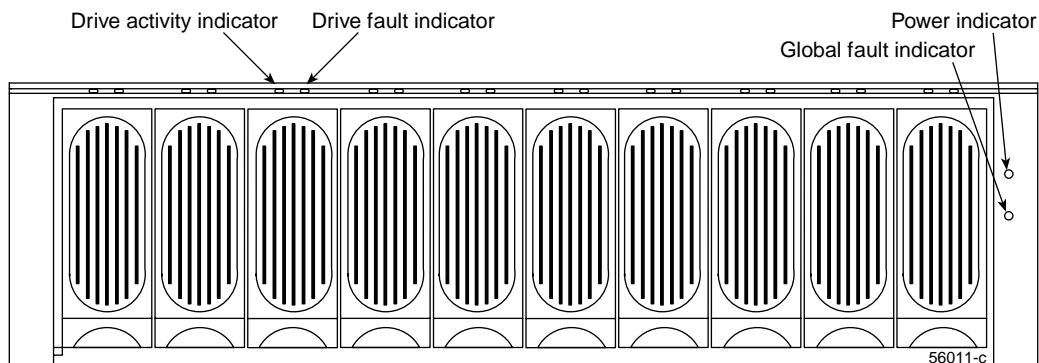
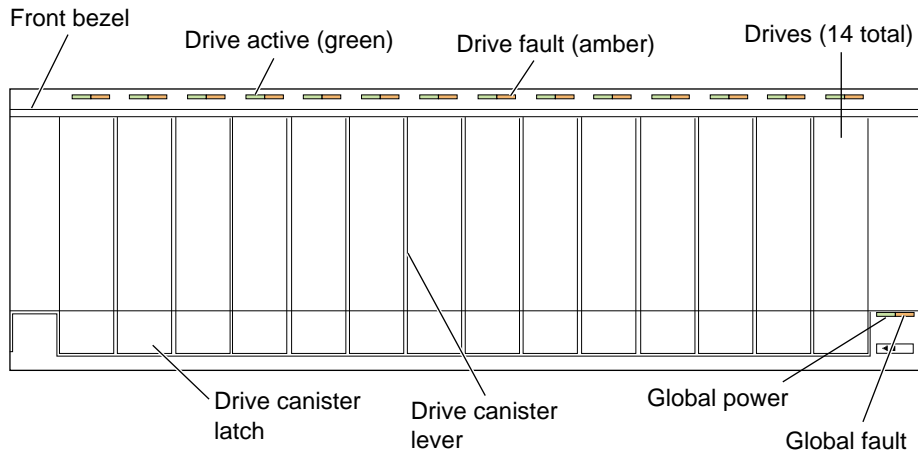
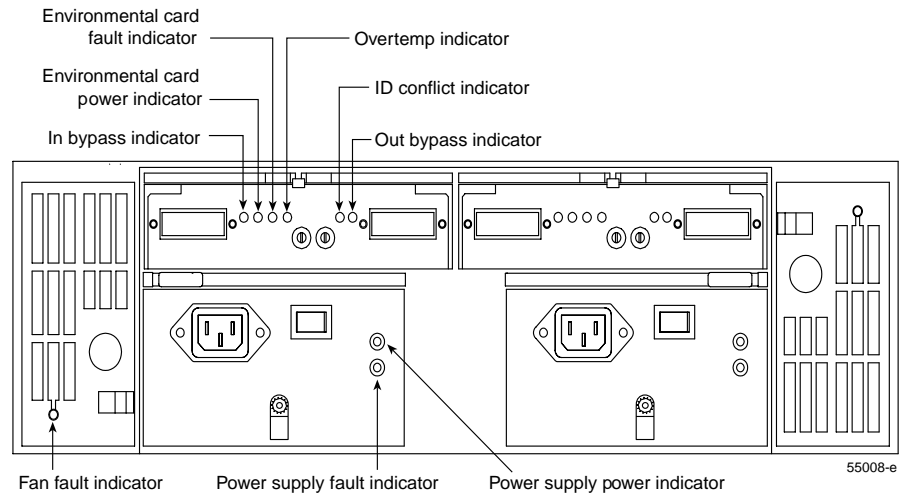

Figure 6-2 Front Indicator Lights on the 10-Drive Enclosure
Figure 6-3 Front Indicator Lights on the 14-Drive Enclosure
Figure 6-4 Rear Indicator Lights on the 10-Drive Enclosure
come on. See Figure 6-4 and Figure 6-5 for the locations of the overtemp indicators on the 10- and 14-drive enclosures.
3. Make sure that all the drive enclosure fault indicators are off (see Figure 6-2 and Figure 6-3).
Important: Except as described in the notes following Figure 6-2 and Figure 6-4, an amber light indicates a drive enclosure component failure. If you see an amber indicator, run the storage management software (TPSSM) to diagnose and repair the problem.
Figure 6-2 shows the front indicators for the 10-drive enclosure.
Figure 6-3 shows the front indicators on the 14-drive enclosure.
Figure 6-4 shows the rear indicators on the 10-drive enclosure.